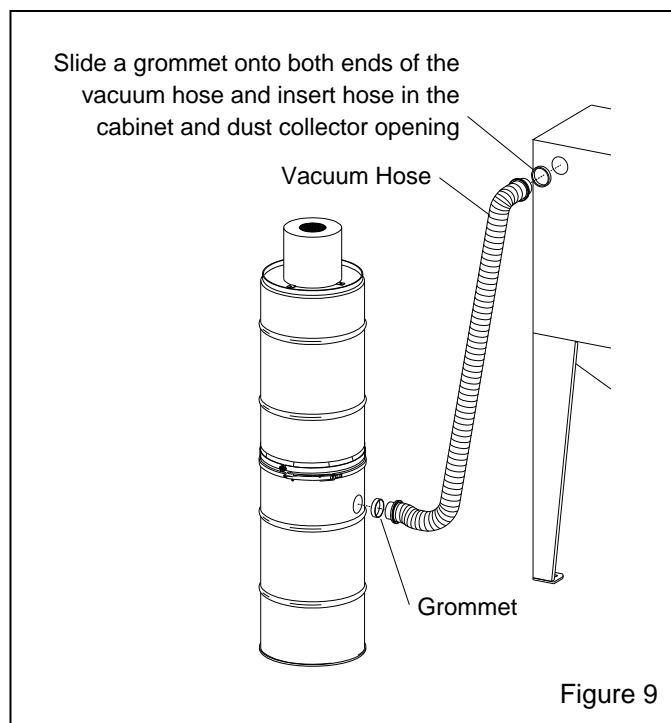

Figure 9
2.6.1 Make sure a vacuum hose grommet is installed on both ends of the vacuum hose and insert the hose into the opening in the back of the cabinet and side of the dust collector as shown in Figure 9.